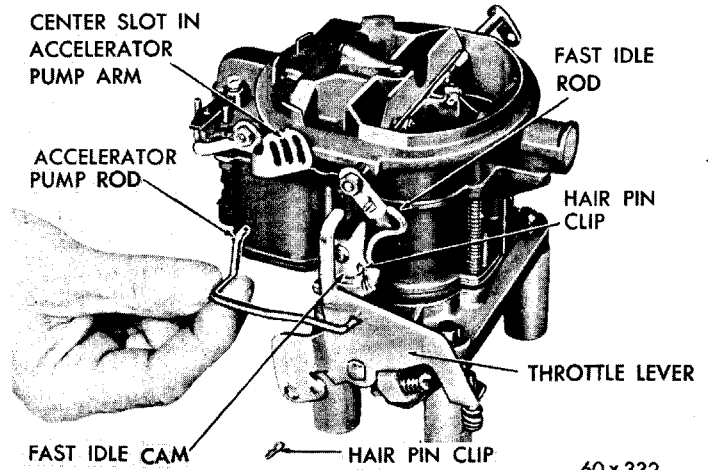

Fig. 3—Removing or Installing Pump Rod
(1) Install four elevating legs, Tool T109-287S in the mounting flange holes in the throttle body. These legs are used to protect the throttle valves from damage and to provide a suitable base for working.
(2) Remove the hairpin clip that holds the pump rod in the center slot of the pump arm. Remove rod from slot and disengage from the throttle lever, as shown in Figure 3.